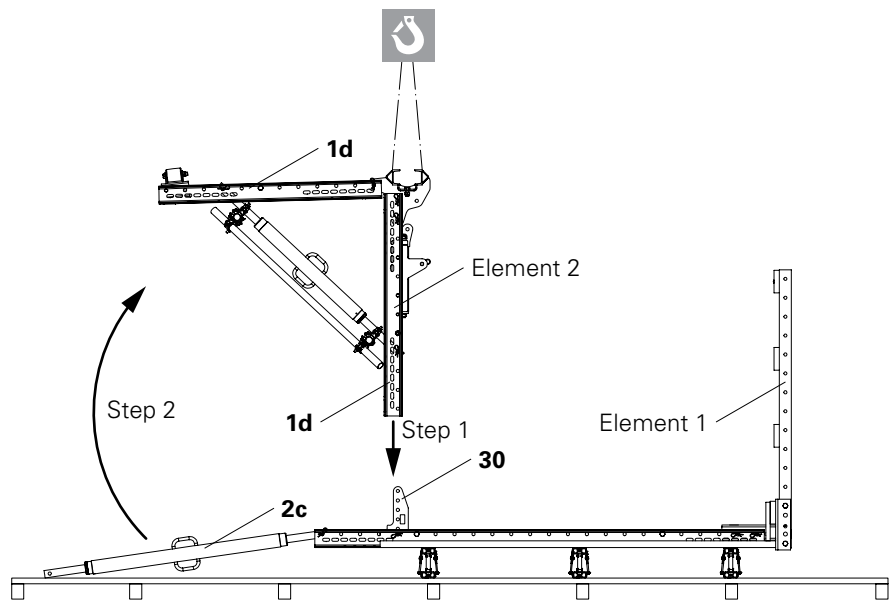

Fig. B4.01
2. Pivot the Heavy-Duty Spindle SLS (2c) upwards and bolt onto the horizontal Steel Waler SRU U120 (1d) using 1x fitting pin \varnothing 21 mm (26). (Fig. B4.01)